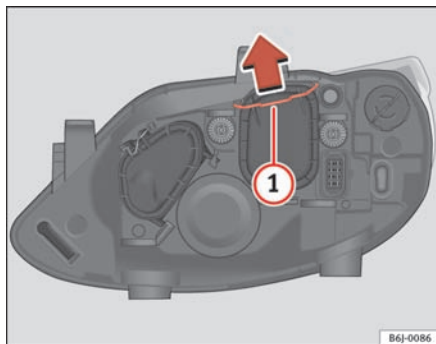

Fig. 132 Dipped head-lights
- Move the loop ⇒ fig. 132 (1) in the direction of the arrow and remove the cover.